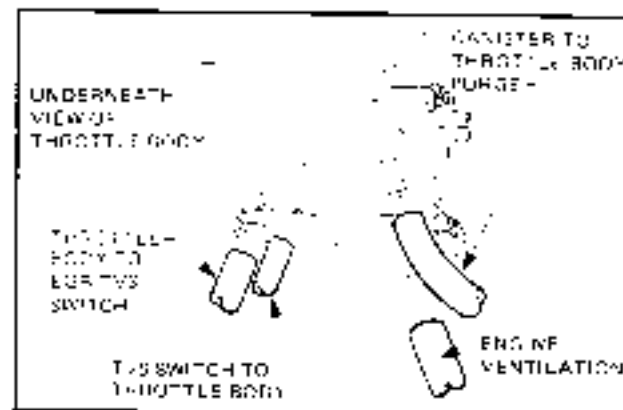

Figure 6C-78
- 6 Disconnect throttle position switch wiring harness connector and fitted idle lead compensator power feed wire. Refer Fig. 6C-79.